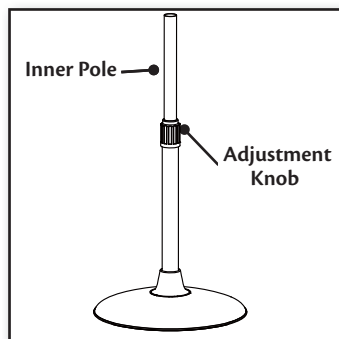

Figure 9
5. Grasp the telescopic pole firmly and twist the adjustment knob counter clockwise to loosen. Figure 9.
6. Raise the inner pole to maximum height and tighten the adjustment knob by twisting clockwise until secure. Figure 9.